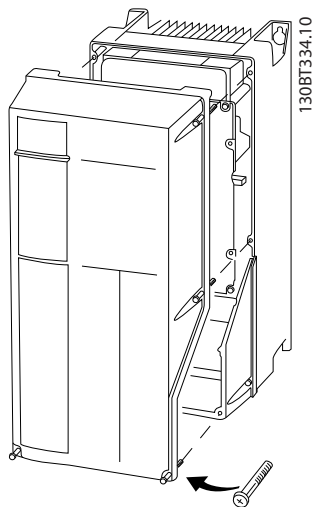

Figure 2.13 Control Wiring Access for A4, A5, B1, B2, C1 and C2 Enclosures
- Or remove front cover by loosening attaching screws. See *Figure 2.13*.